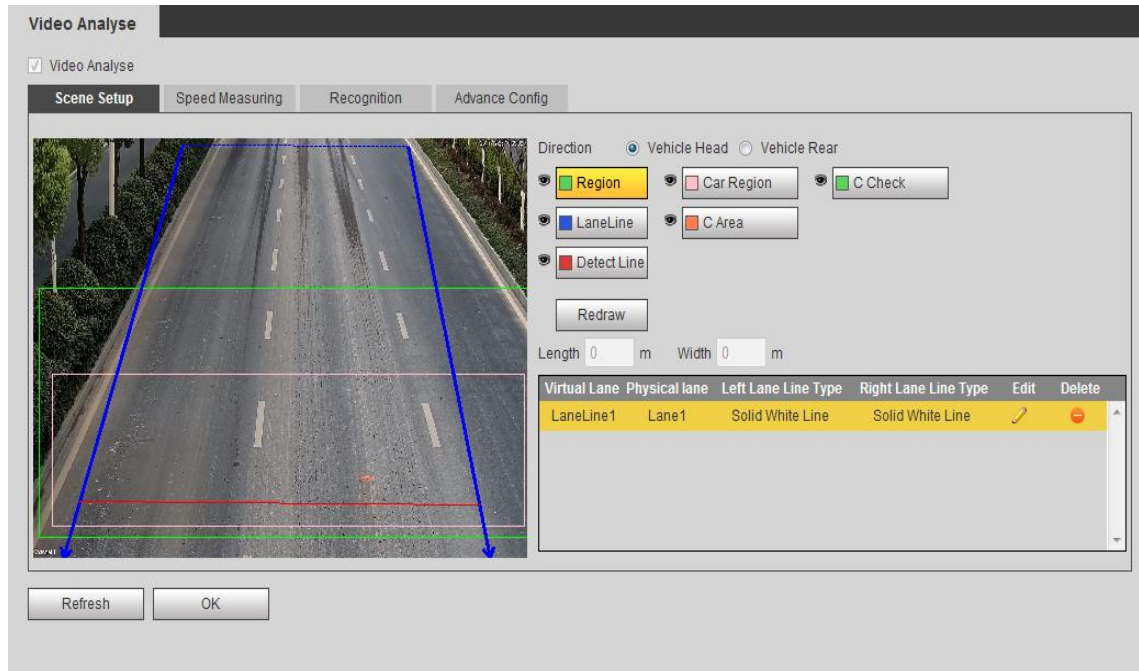

Figure 6-30 Video Analysis-ANPR
Step 1. Select Setting>ITC>Intelligent>Video Analyse>Scene Setup. See Figure 6-30 Video Analysis-ANPR.